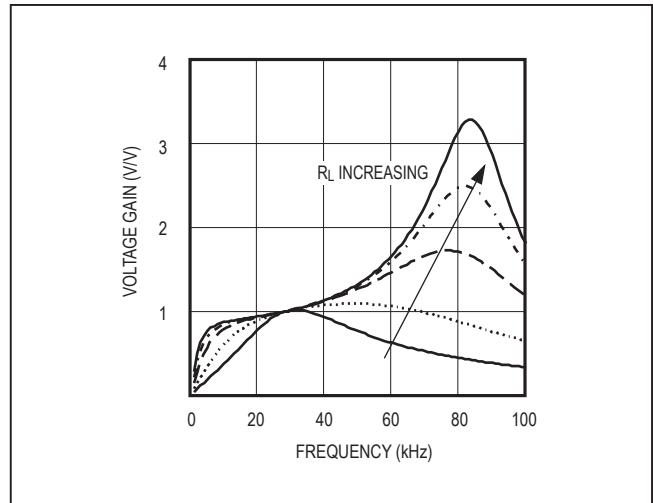

Figure 8. Frequency Response of the Resonant Tank
Figure 8 shows the frequency response of the resonant tank's voltage gain under different load conditions. The primary series capacitor is $1\mu F$, the secondary parallel capacitor is $15pF$, the transformer turns ratio is 1:93, and the secondary leakage inductance is $260mH$. Notice that there are two peaks, f_S and f_P , in the frequency response. The first peak, f_S , is the series resonant peak determined by the secondary leakage inductance (L) and the series capacitor reflected to the secondary ($C_{S'}$):